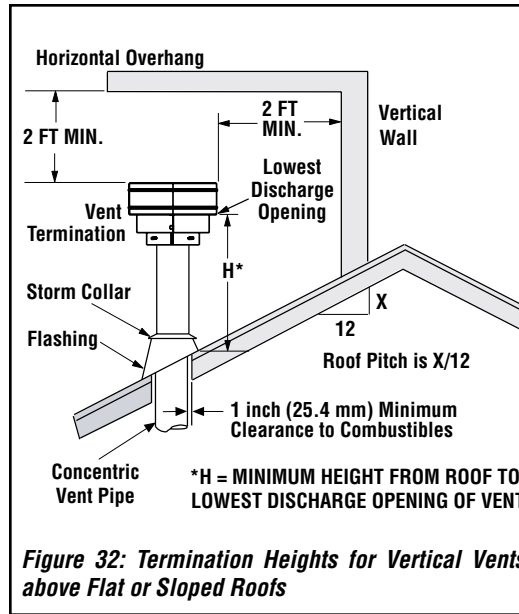

Figure 32: Termination Heights for Vertical Vents above Flat or Sloped Roofs
- Terminate single vertical vent caps relative to other existing building components, as shown in **Figure 32**.